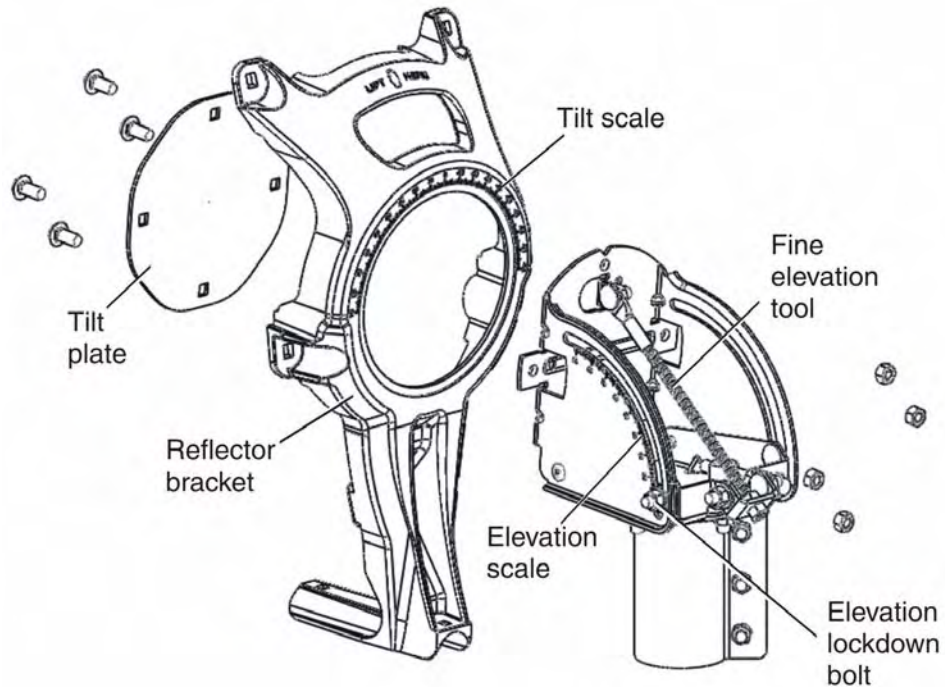

Figure 10: Attaching the reflector bracket
1. Hold the reflector bracket in position over the Az/EI mount so that the tilt scale faces the mount, as shown in Figure 10.